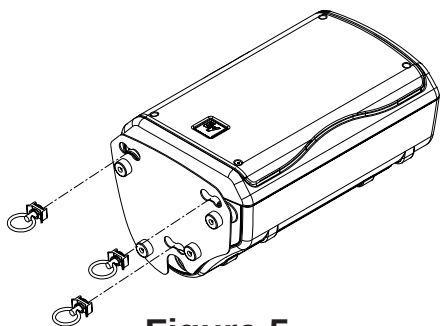

Figure 5:
5. Attach the single stud fittings by pressing down on the button, and placing the button through the “dog bone” openings on the plate (Figure 5). Slide the fittings toward the center of the dog bone until it snaps in place.